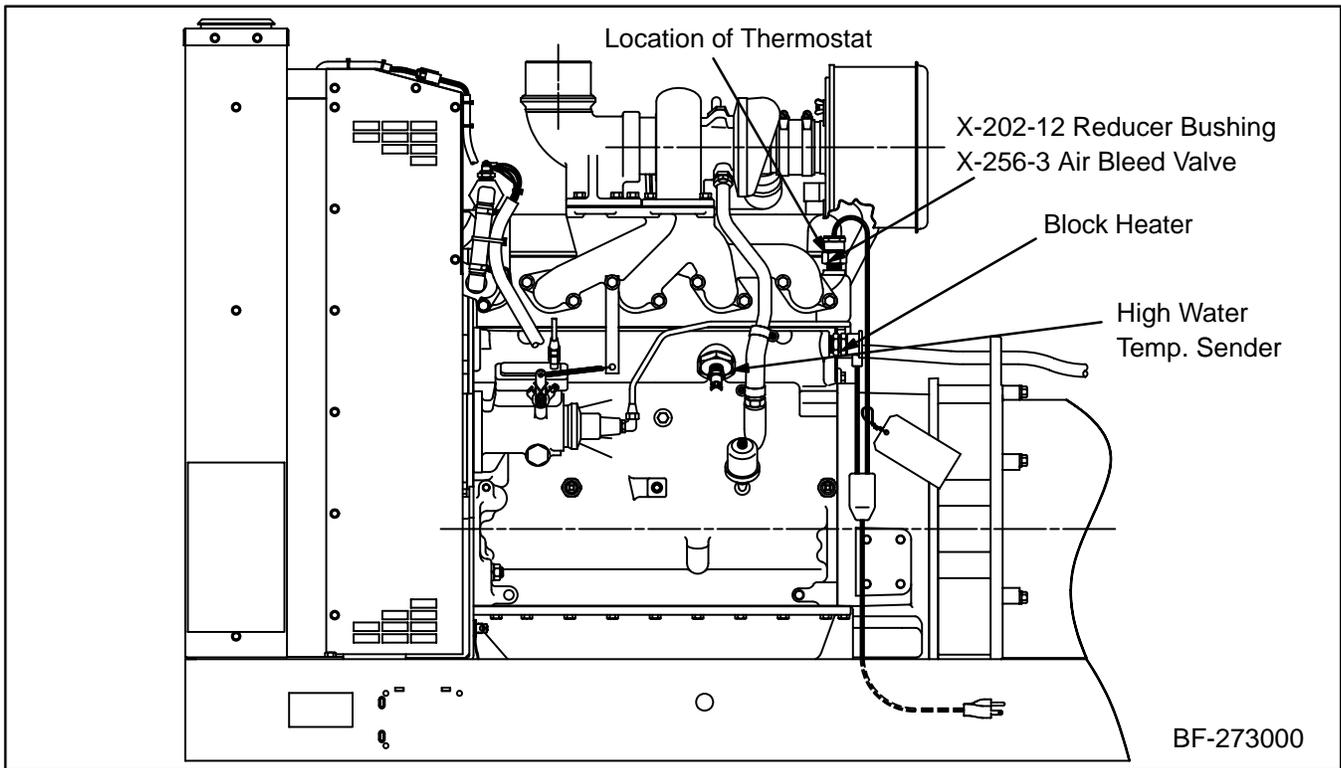

Figure 1. Block Heater Kit Removal (Immersion-Type).
3. Remove all electrical connections to the block heater and thermostat. Discard the old block heater cord connections. See Figure 1.
4. Remove the thermostat and discard it. Clean the threads on the engine and apply pipe sealant to reducer bushing X-202-12 and air bleed valve X-256-3 and install them into the block. See Figure 1.
6. Remove the High Water Temp. Sender from its location at the front right side of the engine. Replace the plug located near the starter with 273692 tapped plug and 273693 O-ring, then install the High Water Temp. Sender in the plug. See Figure 1.
4. On older units, remove the High Water Temp. Sender from its location at the front right side of the engine. Replace the plug located near the starter with 273692 tapped plug and 273693 O-ring, then install the High Water Temp. Sender in the plug. See Figure 1.